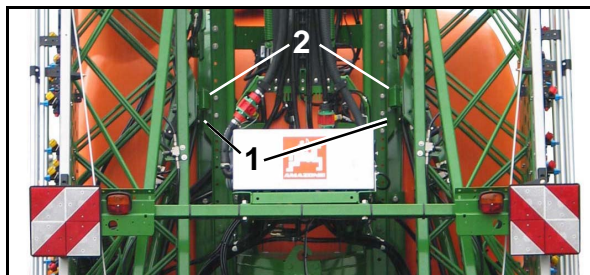

Fig. 135
1. Entirely lower the sprayer booms via the height adjustment (functional field ) until the latches (Fig. 135/1) retain the location pockets (Fig. 135/2).
Fig. 135 shows the locked sprayer booms
Align the sprayer booms via the tilt adjustment if the latches (Fig. 135/1) do not retain the location pockets (Fig. 135/2).